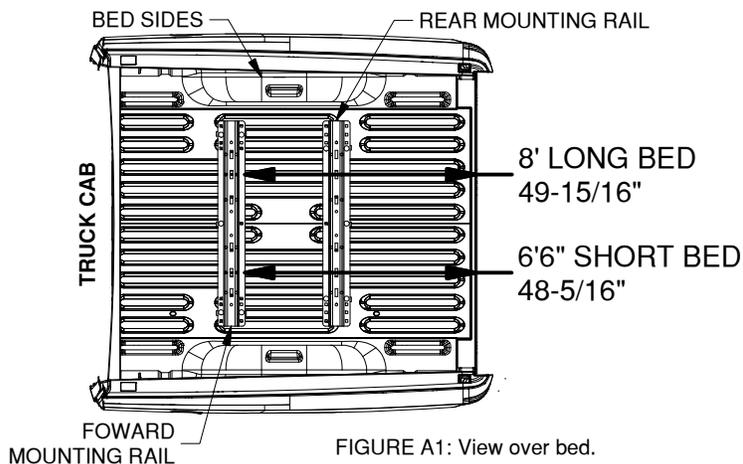

FIGURE A1: View over bed.
- 1. Layout the forward mounting rail.** Place a mounting rail onto the bed of the truck. Hook a tape measure over the rear edge of the bed (not on any part of the tailgate), measure the location for the mounting rail as shown in figure A1. Next, center the mounting rail in the bed by measuring the distance on either side from the edge of the rail to the sides of the bed. The rail will be centered when both measurements on either side of the rail are the same.